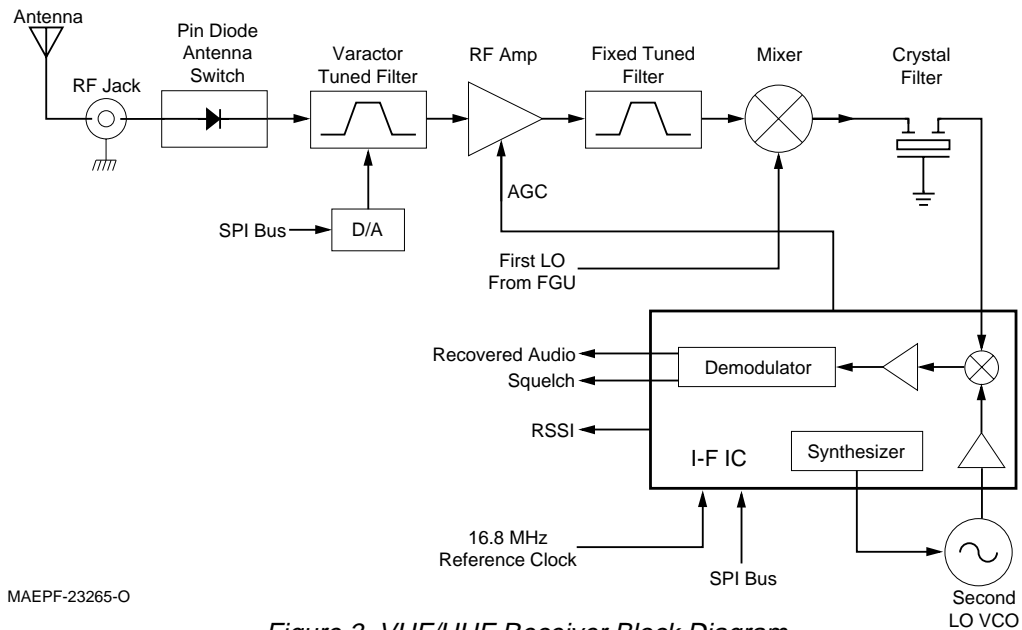

Figure 3. VHF/UHF Receiver Block Diagram
C. Receiver Front End (See Figure 3)
D. Receiver Back End (See Figure 3)